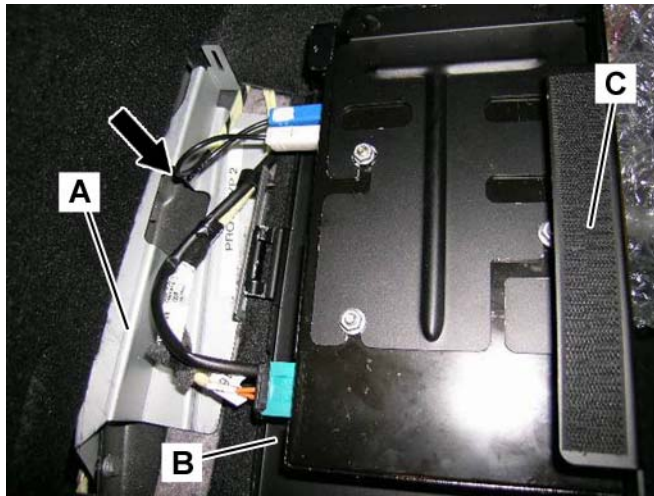

Figure 20
2. Bring the latch of part B of the SDARS bracket (B, Figure 20) into the correct position, in order to insert into the slot of part A of the mounted bracket (A, Figure 20).
3. Route the SDARS antenna cable under the trunk cover (Arrow, Figure 20).
4. Turn up part B of the SDARS bracket (C, Figure 20) and join the latch into the slot of part A of the mounted SDARS bracket (A, Figure 20).